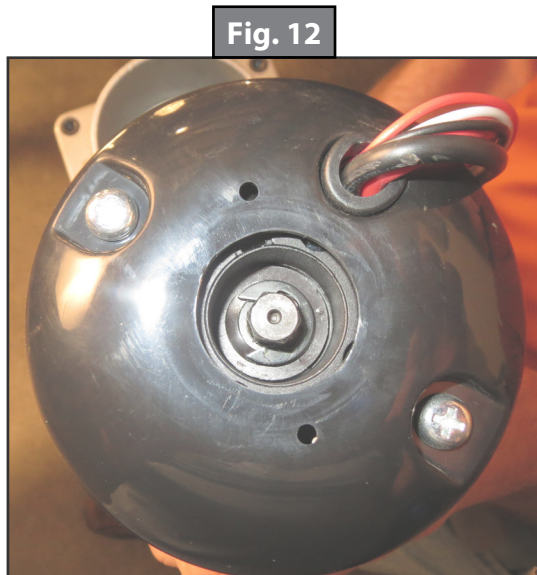

Fig. 12
3. Insert the 5/16" socket into the port (Fig. 12).